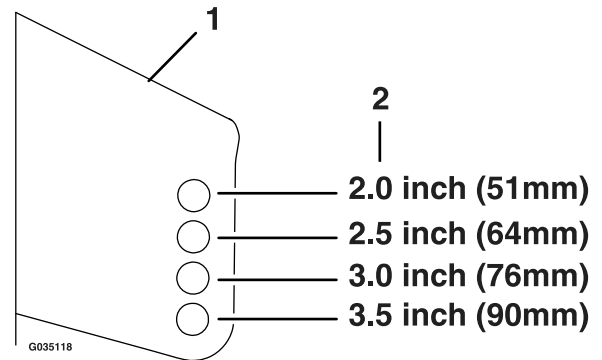

Figure 29
6. Place the rollers in one of the positions shown (Figure 29). Rollers will maintain 3/4 inch (19 mm) clearance to the ground to minimize gouging and roller wear or damage.